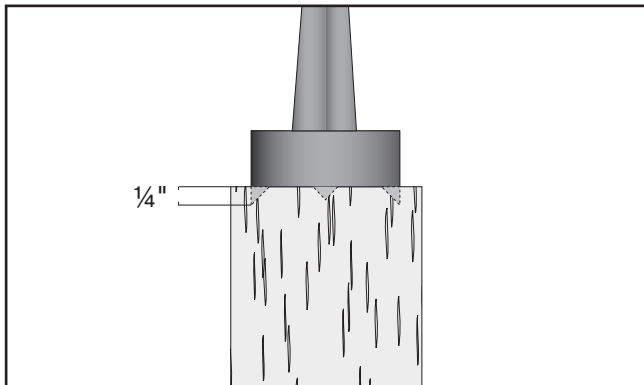

Figure 30. Spur center properly embedded.
- Drive spur center into end center mark of workpiece with a wood mallet to embed it at least $\frac{1}{4}$ " into workpiece, as shown in **Figure 30**.